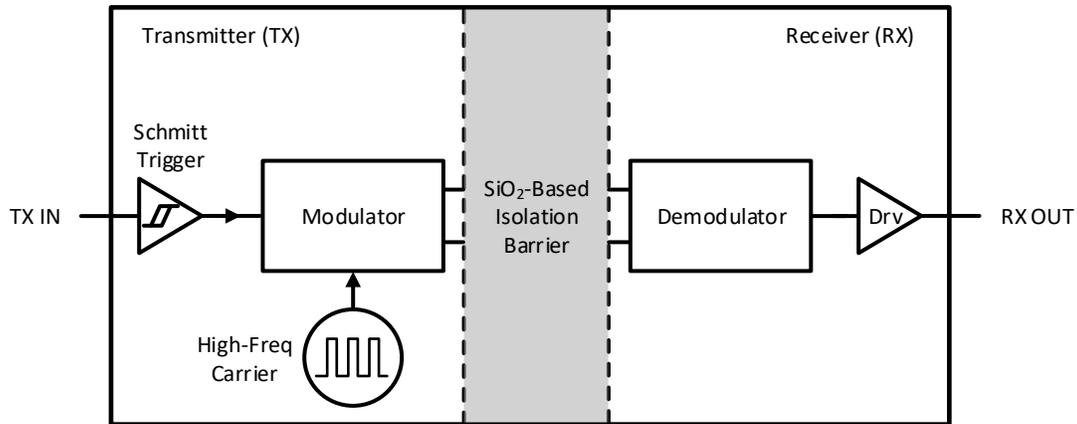
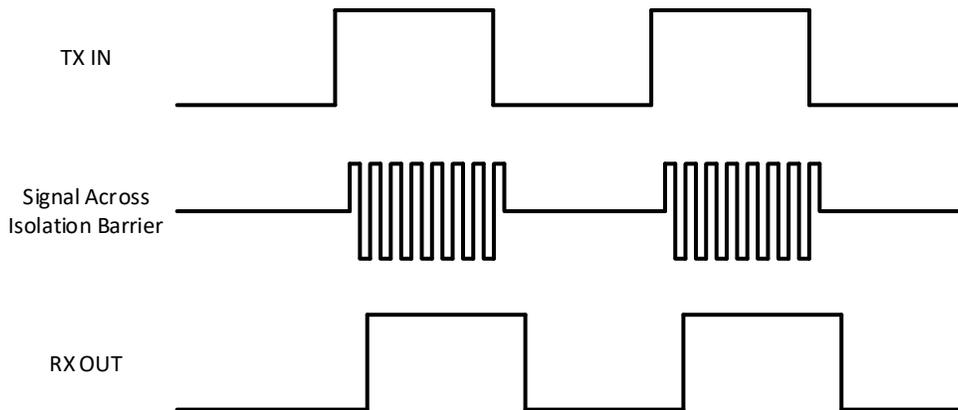

Figure 9-2 Block Diagram of an Isolation Channel
Figure 9-3 Conceptual Operation Waveforms of OOK Modulation Scheme
The CA-IS1200 devices utilize a simple on-off keying (OOK) modulation scheme to transmit the digital bitstream across the SiO₂-based isolation barrier which supports up to 3750-V_{RMS} (CA-IS1200U) or 5000-V_{RMS} (CA-IS1200G) galvanic isolation between high- and low-voltage domain. The block diagram of an isolation channel is shown in Figure 9-2. As shown in Figure 9-3, the transmitter (TX) modulates the digital bitstream with a high-frequency carrier when the signal is HIGH while sends no signal